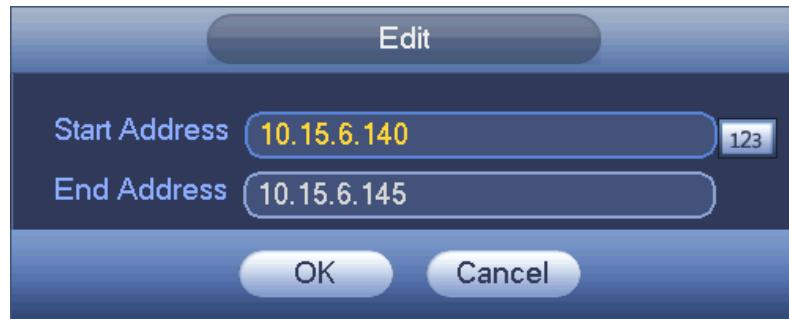

Figure 4-78
- Edit: Click it to edit start address and end address. See Figure 4-78. System can check the IP address validity after the edit operation and implement IPv6 optimization.